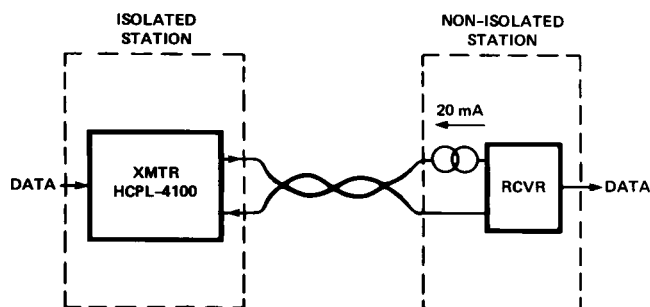

Figure 11. Simplex Point to Point Current Loop System Configuration.
2. Derate linearly above a free-air temperature of 70°C at a rate of 2.3 mW/°C. A significant amount of power may be dissipated in the HCPL-4100 output circuit during the transition from the SPACE state to the MARK state when driving a data line or capacitive load (C_{OUT}). The average power dissipation during the transition can be estimated from the following equation which assumes a linear discharge of a capacitive load: $P = I_{SC} (V_{SO} + V_{MO})/2$, where V_{SO} is the output voltage in the SPACE state. The duration of this transition can be estimated as $t = C_{OUT} (V_{SO} - V_{MO})/I_{SC}$. For typical applications driving twisted pair data lines with NRZ data as shown in Figure 11, the transition time will be less than 10% of one bit time.
The simplex configuration, whether point to point or multidrop, gives unidirectional data flow from transmitter to transmitter(s). This is the simplest configuration for use in long line length (two wire), moderate data rate, and low current source compliance level applications. A block diagram of simplex point to point arrangement is given in Figure 11 for the HCPL-4100 transmitter optocoupler.